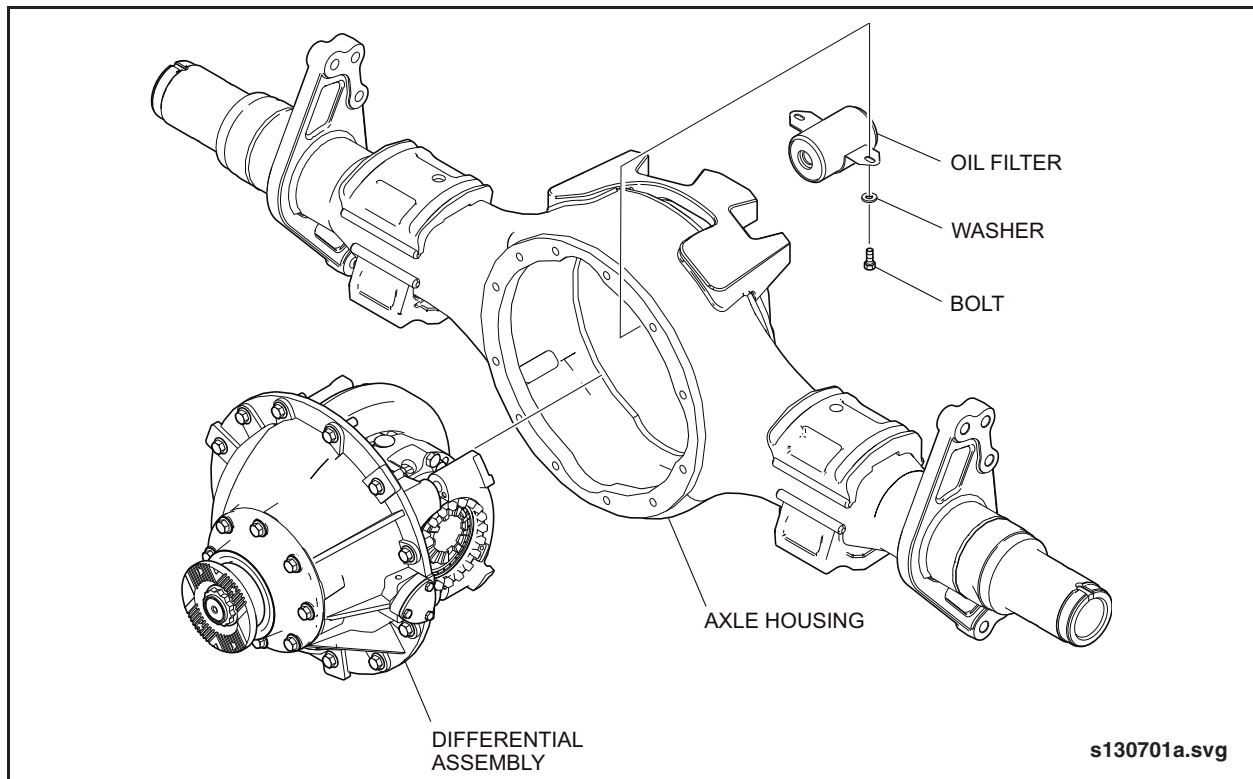

Fig. 1: Rear Axle Housing Oil Filter
1. Prior to installing the differential assembly into the axle housing, remove the oil filter, located in the upper area of the axle housing. See “Fig. 1: Rear Axle Housing Oil Filter” on page 2.